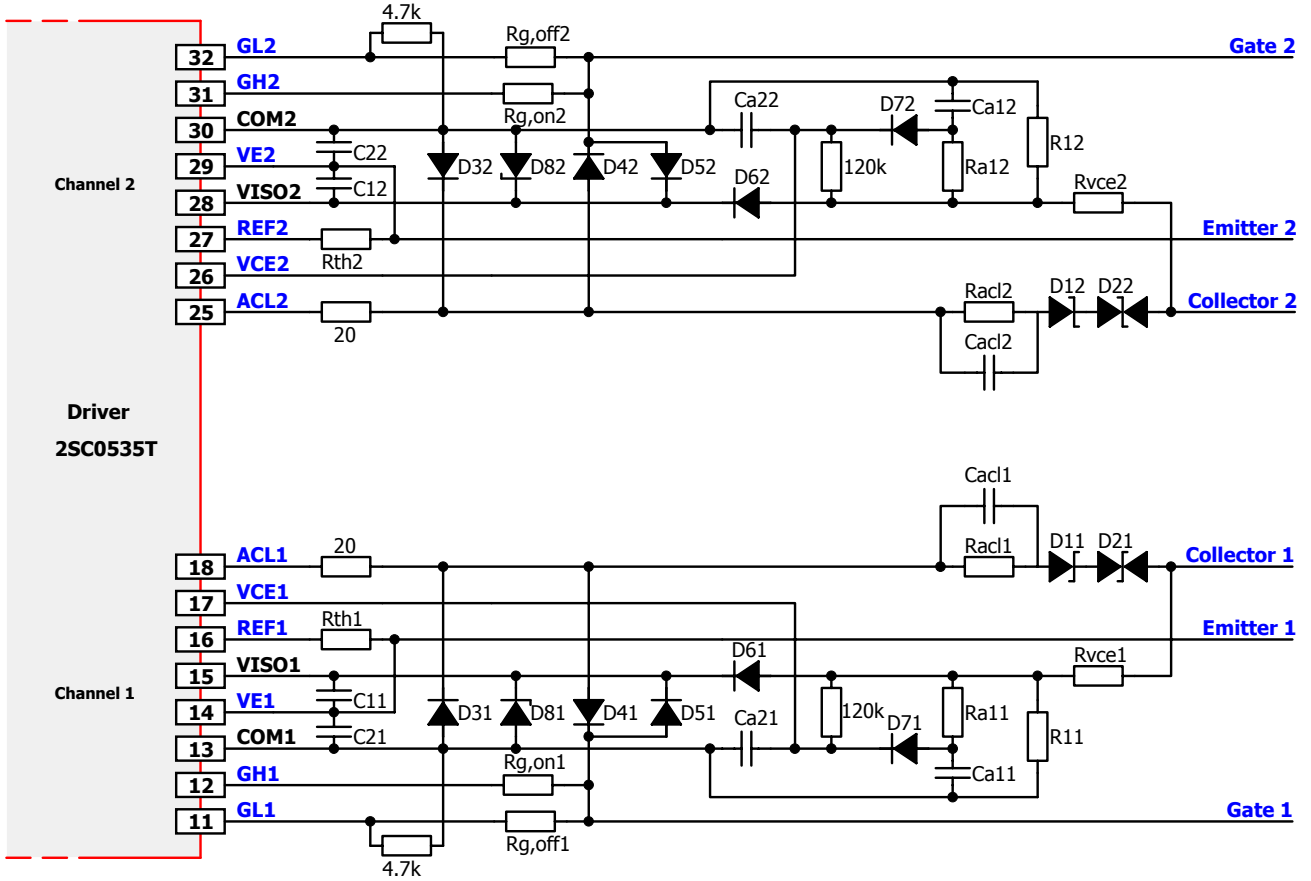

Fig. 6 Recommended user interface of 2SC0535T with advanced active clamping (secondary sides)
It is recommended to insert an external capacitance of 9.4 $\mu$ F between the VISOx and VEx terminals ( $C_{1x}$  in Fig. 6) to drive IGBT modules with a gate charge of up to 4.7 $\mu$ C.
- 4 $\mu$ F per 1 $\mu$ C between VISOx and VEx ( $C_{1x}$  in Fig. 6) as well as
- 2 $\mu$ F per 1 $\mu$ C between VEx and COMx ( $C_{2x}$  in Fig. 6)
A 27V zener diode with 2% tolerance (e.g. BZX384-B27 from NXP) must be placed between VISOx and COMx (D8x in Fig. 6).
The collector sense must be connected to the IGBT collector with the circuit shown in Fig. 6 in order to detect an IGBT overcurrent or short circuit.
Basic active clamping topologies implement a single feedback path from the IGBT's collector through transient voltage suppressor devices (TVS) to the IGBT gate. The 2SC0535T supports CONCEPT's advanced active clamping, where the feedback is also provided to the driver's secondary side at pin ACLx: as soon as the voltage on the right side of the 20Ω resistor (see Fig. 6) exceeds about 1.3V, the turn-off MOSFET is progressively switched off in order to improve the effectiveness of the active clamping and to reduce the losses in the TVS. The turn-off MOSFET is completely off when the voltage on the right side of the 20Ω resistors (see Fig. 6) approaches 20V (measured to COMx).
It is recommended to use the circuit shown in Fig. 6. The following parameters must be adapted to the application:
- The first mode is the default IGBT setup with both a positive (regulated) turn-on voltage of 15V (typical) and a second (non-regulated) turn-off voltage (see Fig. 6).
Each channel of the 2SC0535T driver is equipped with a Vce monitoring circuit. The recommended external circuitry is shown in Fig. 6. A resistor (Rthx in Fig. 6) is used as the reference element for defining the static turn-off threshold together with Rvcex and R1x. The value of the current flowing through Rthx is 150µA (typical). It is recommended to choose threshold levels of about 10V for 1700V IGBTs or 50V for 3300V IGBTs. In this case, the driver will safely protect the IGBT against short circuit, but not necessarily against overcurrent. Overcurrent protection has a lower timing priority and it is recommended to realize it within the host controller.